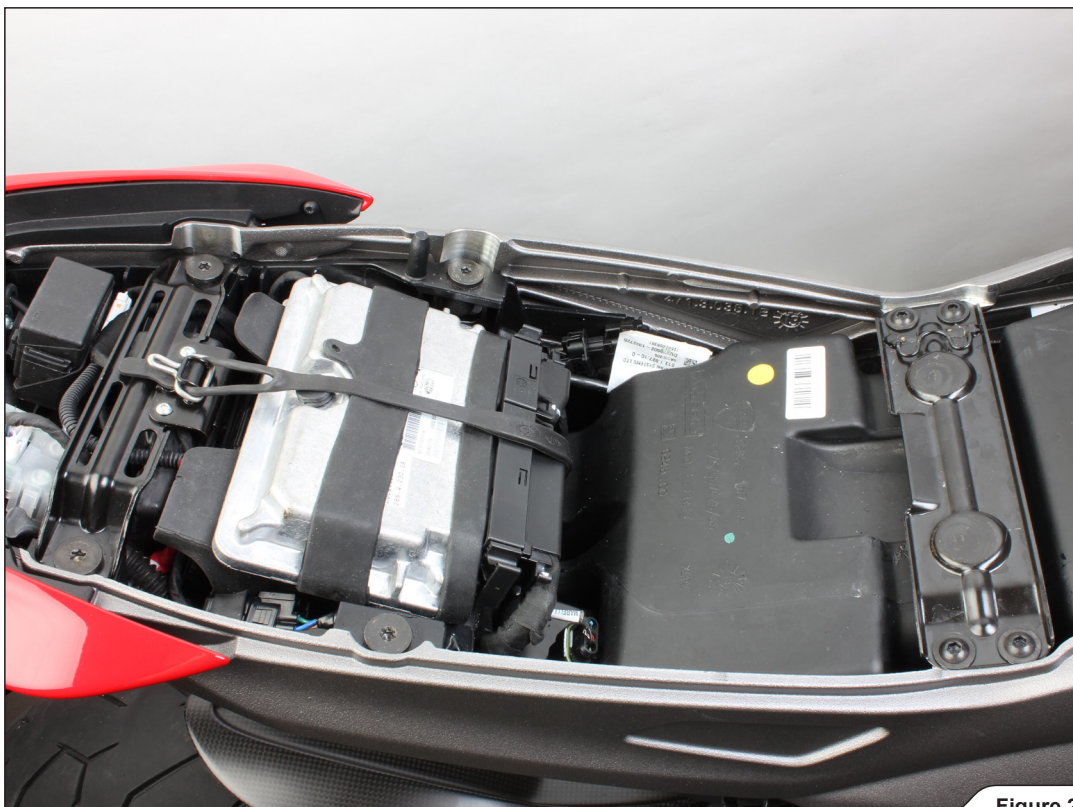

Figure 2
4. Remove the ECU unit and battery (**Figure 2, 3**).